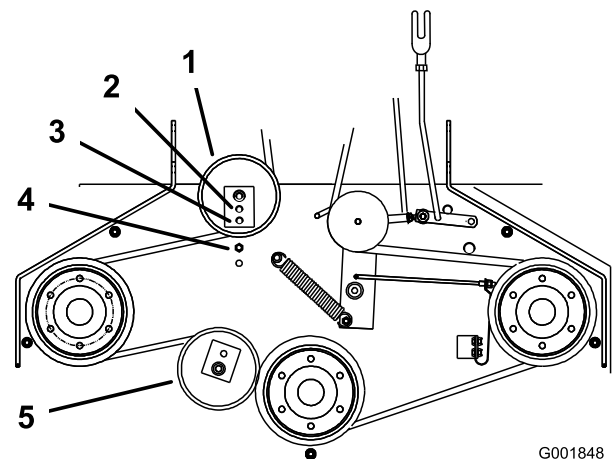

Figure 55
6. If there is no adjustment left in the turnbuckle and the belt is still loose, the rear idler pulley needs to be positioned to the middle or front hole (Figure 55). Use the hole that will give the correct adjustment.
7. When the idler pulley is moved the belt guide must be moved. Move the belt guide to the front position (Figure 55).